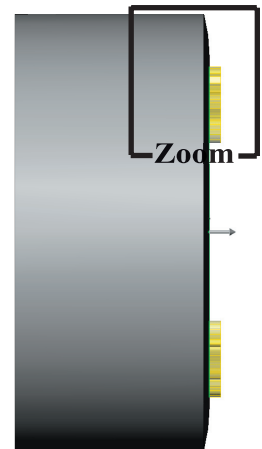

Fig. 26
Step 4. Zoom in around **extruded letters**, **Fig. 26**. To **zoom**, hold down **Shift key** and drag with middle mouse button (wheel). To **pan**, hold down **Ctrl key** and drag with middle mouse button (wheel).